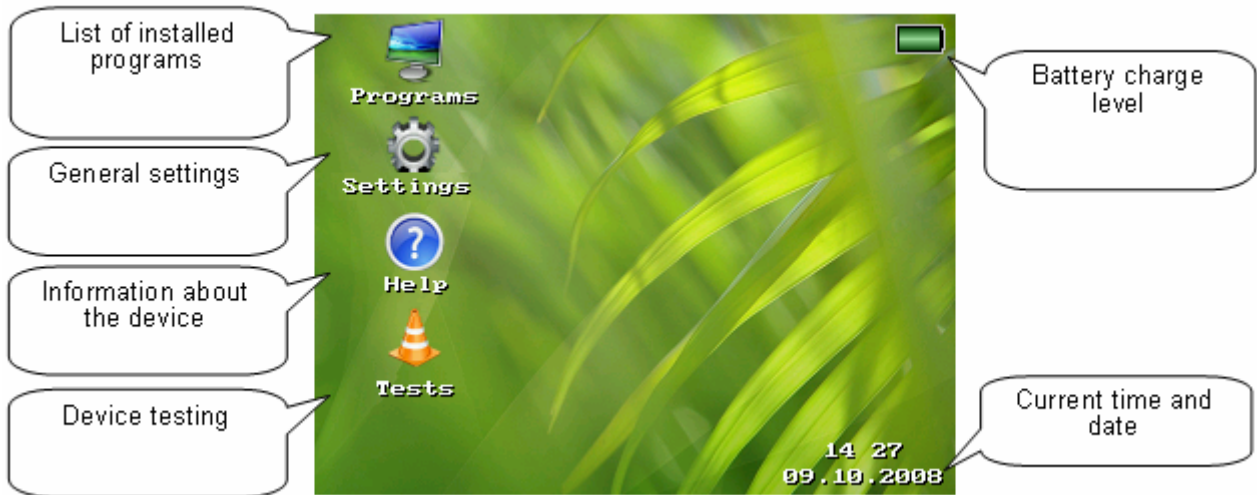

Fig. 5 Splash screen
6.1.2 The splash screen will appear on the DAMI-C09 display in 1-2 seconds (**Fig. 5**). DAMI-C09 is ready for operation.
6.1.3 Built-in battery charge level is displayed in the right upper corner of the splash screen (**Fig. 5**).
After DAMI-C09 is turned on, the splash screen will be displayed (**Fig. 5**). In this mode, the user is able to: